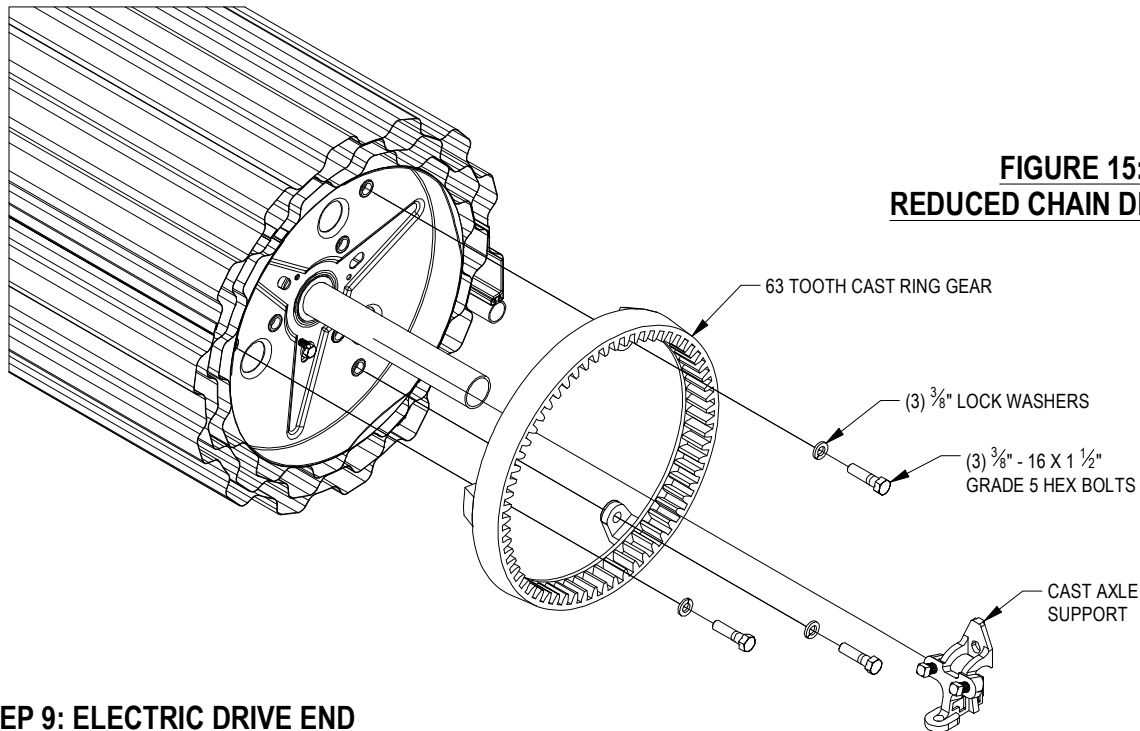

FIGURE 15:
- Fasten 63 Tooth Cast Ring Gear to drum using three (3) each $\frac{3}{8}$ " - 16 x 1 $\frac{1}{2}$ " Grade 5 Hex Bolts and $\frac{3}{8}$ " Lock Washers.
- Install two (2) each $\frac{3}{8}$ " - 16 x 1" Square Head Set Screws in the threaded holes in the Cast Axle Support bracket. These will be tightened against the axle later.
- Slide Cast Axle Support bracket over axle. **See Figure 15.**